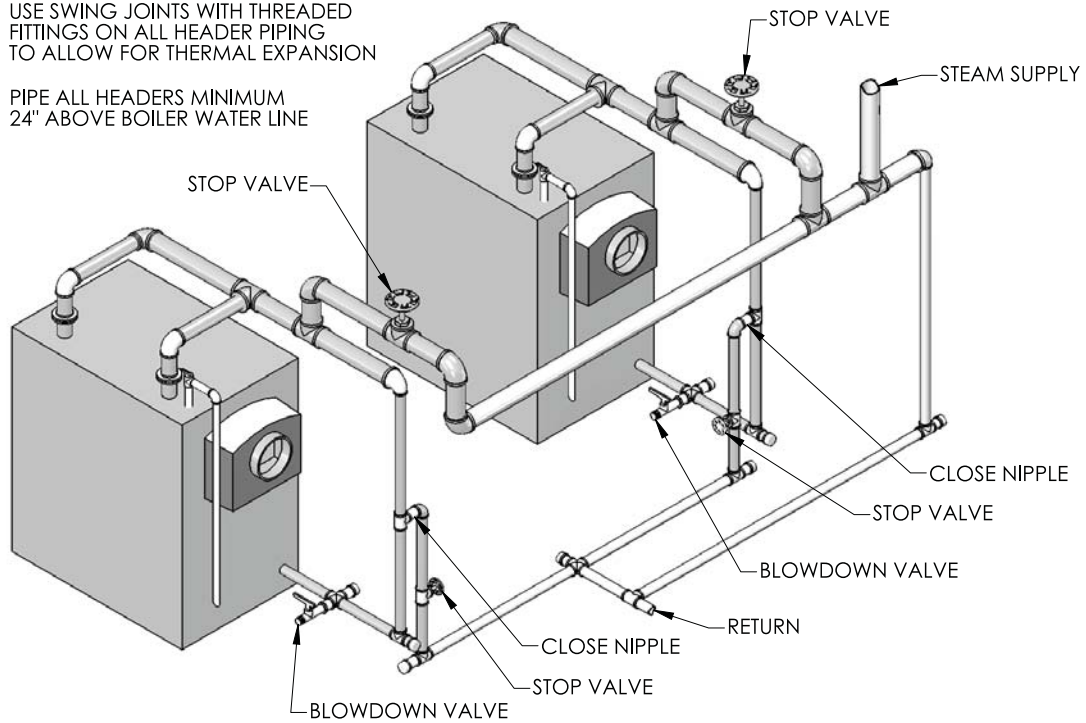

Figure 3.4: Multiple Steam Boiler Piping - Gravity Return
- 1. Figure 3.4 shows typical piping for multiple steam boiler gravity return systems.